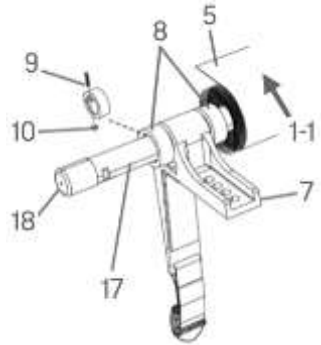

Fig. 1
3. Remove the roller bar caps (#18) from the roller bar (Fig. 1).
4. Slide the first set of bracket stops (#8) onto the roller bar on both sides of the load sheet (#5) (Fig. 1).
5. Slide the L-brackets (#7) next to the bracket stops on both sides (Fig. 1).
6. Insert the stop bolts (#9) and thread stop nuts (#10) loosely on all 4 bracket stops (Fig. 1).
7. Reinstall the roller bar caps on both sides (Fig. 1).